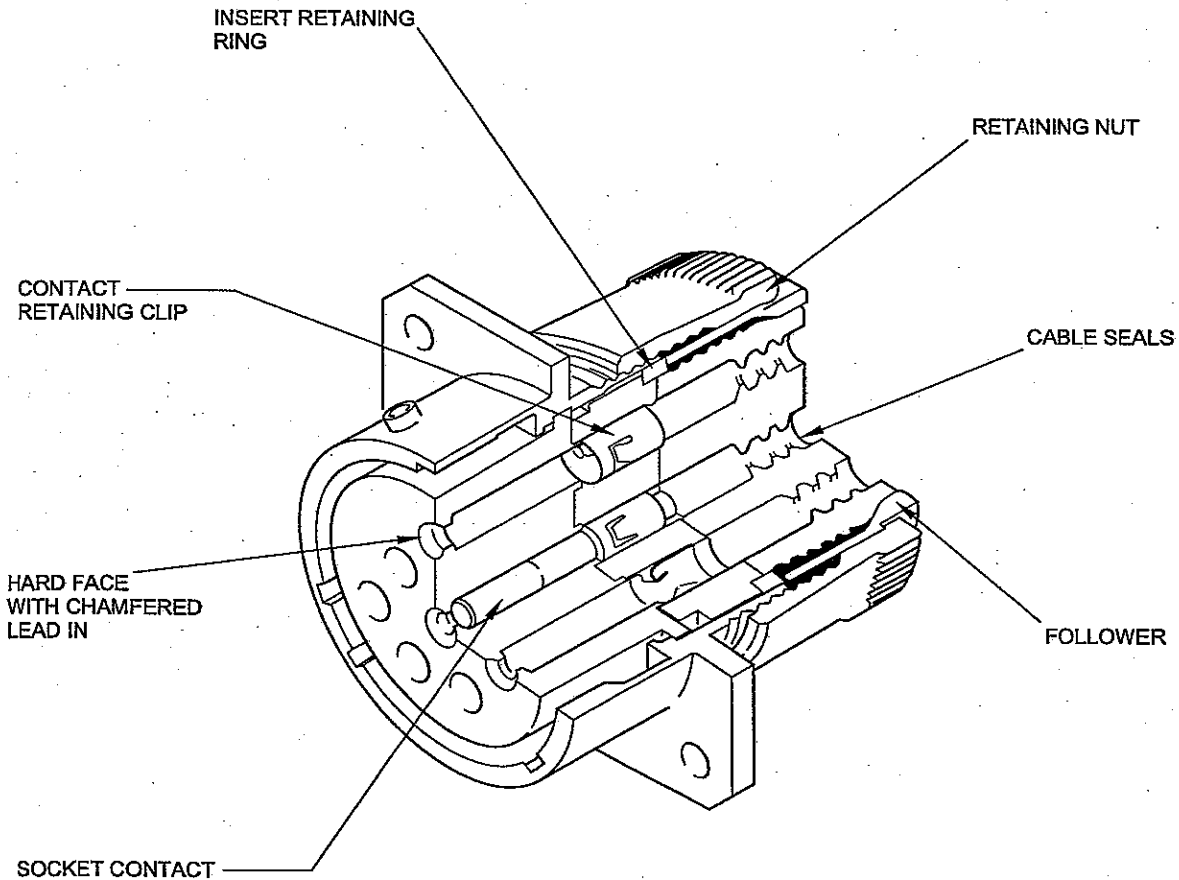

Fig 1. Connector, 460 series, sectional view
1.1 Environmental connectors in the Deutsch Ltd 460 series are bayonet locking fittings, with inserts that meet all requirements of MIL-C-26482 specification. A sectional view of a 460 series connector is shown in Fig 1.